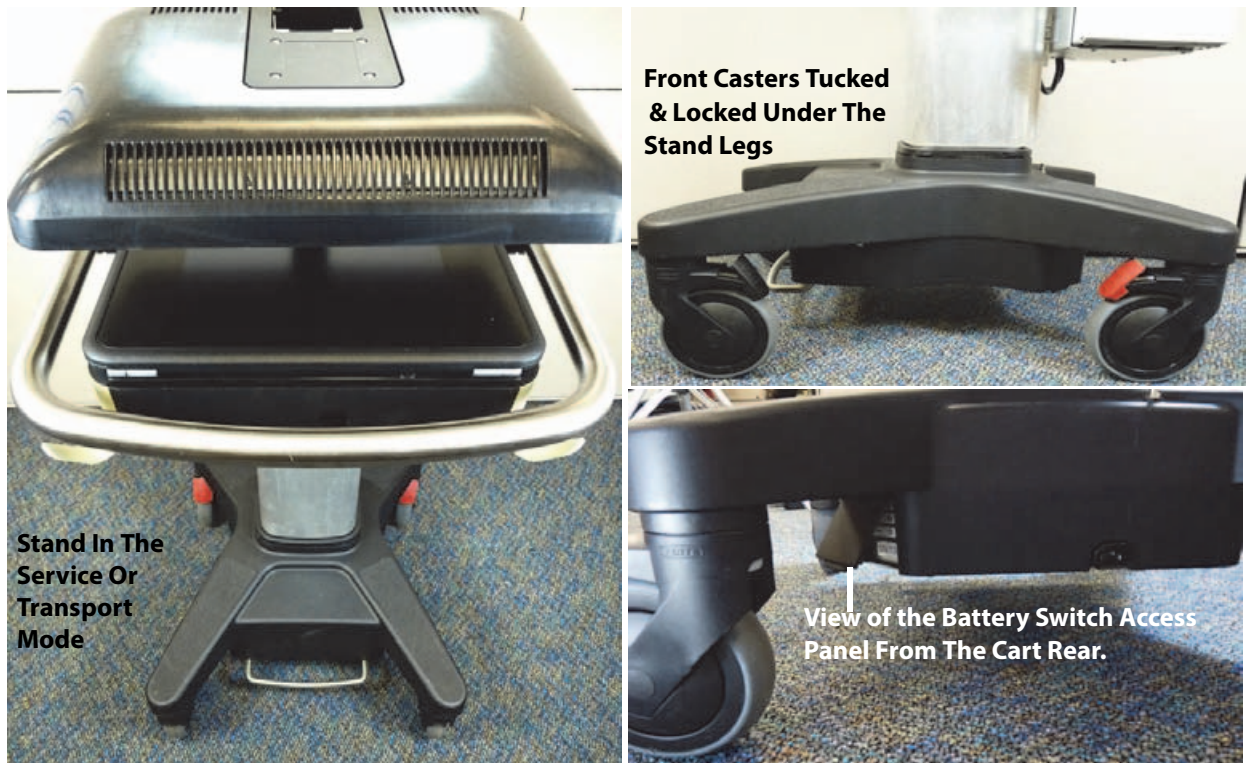
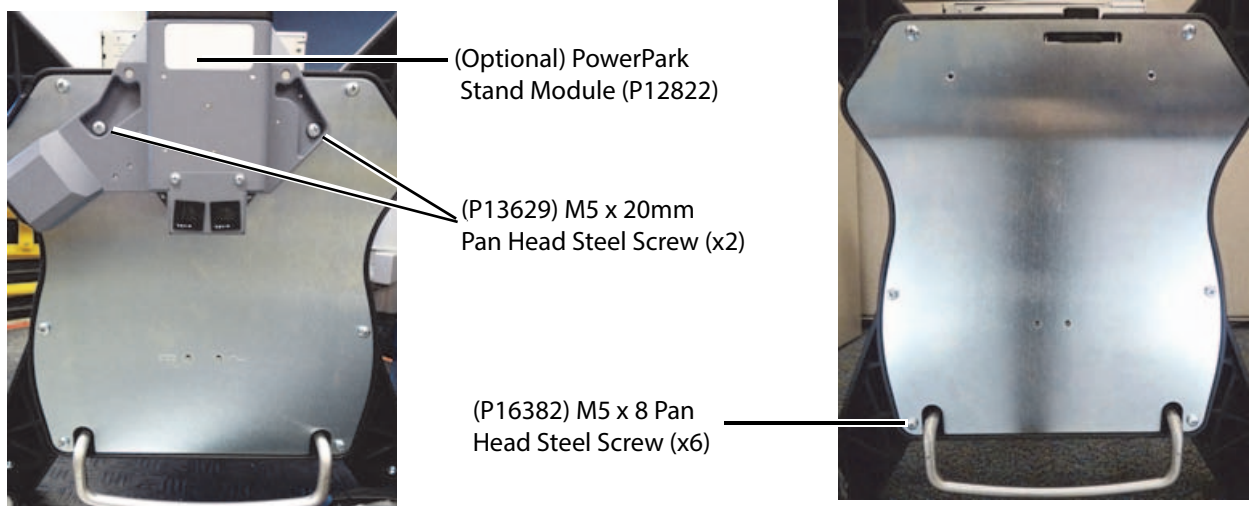

Figure 6.7 Stand Adjusted for Service or Transport
Figure 6.9 Stand Bottom Plate
- 5 Position the touch Control Panel to the horizontal (shipping position). Refer to Figure 6.7 on page 41.
- 6 Fold the Clinical Monitor display to the horizontal (shipping position). Refer to Figure 6.7 on page 41.
- 8 Position the two front casters under the stand caster legs and lock all four casters. Refer to Figure 6.7 on page 41.
- 9 Access the three battery switches and set all switches to the “•O” (OFF) position. Refer to Figure 6.7 on page 41.
- 11 Remove the PowerPark Stand Module two mounting M5 x 20mm (P13629)Phillips screws. This is an optional feature and may not be present on your stand. Refer to Figure 6.9 on page 42
- 12 Remove the six M5 x 8 (P16382) Phillip screws securing the bottom plate and remove the plate. Refer to Figure 6.9 on page 42
- 1 Please refer to section in this chapter titled “Stand Power Management Unit (SPMU) Removal” and follow steps 1 through 11. Please refer to Figure 6.7 on page 41, Figure 6.8 on page 41, and Figure 6.9 on page 42
- 2 Access the three battery switches and set all switches to the “**⓪**” (ON) position. Refer to Figure 6.7 on page 41
- 2 Access the three battery switches and set all switches to the “**•⓪**” (OFF) position. Refer to Figure 6.7 on page 41.
- 2 Access the three battery switches and set all switches to the “**⓪**” (ON) position. Refer to Figure 6.7 on page 41.